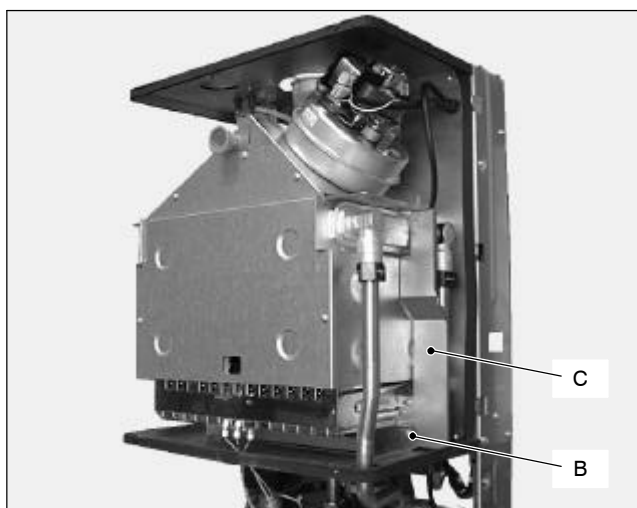

Fig. 78
- 3b For model M90E.28S and M90E.32S remove also the plate C (see Fig. 78 on page 38).
- 1b For model M90E.28S and M90E.32S remove the screw *B* and the plate *C* (Fig. 78).